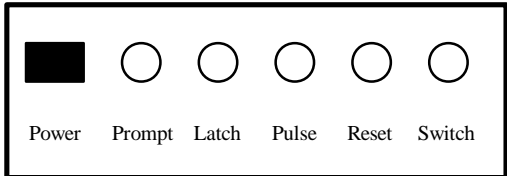

Figure 6
1. When all of the necessary connections have been made, attach the **12-V AC** adapter to the **POWER** jack on the side of the Counter/Controller, then plug the adapter into a wall outlet (Figure 6).